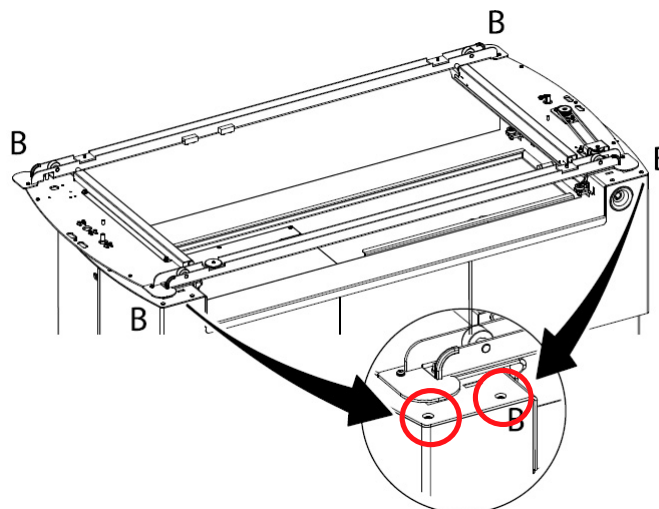

Fig. 4-82 Remove the 8 screws at “B”
2. Move the table frame again, to a new position where the 2 screws at the four “B” locations (a total of 8 screws) can be removed. See Fig. 4-82